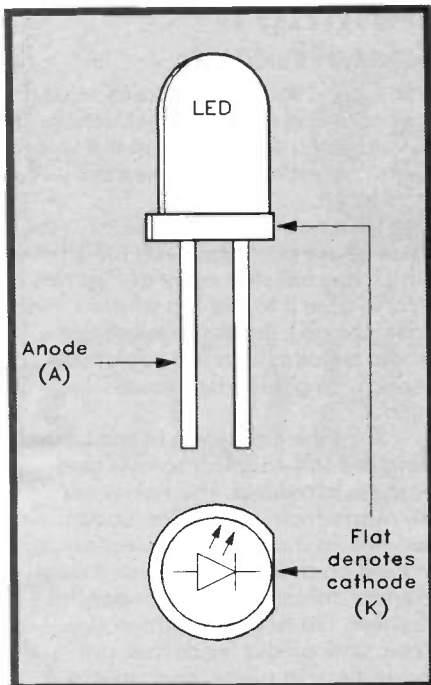

Figure 3. LED symbol and connections (LD1,2).
light up. One side of the LED is flattened (the lead on this side of the LED is known as the cathode (K), while the lead on the other, rounded, side is called the anode (A)). The LED, circuit symbol and connections are shown in Figure 3. Make sure that the LED is fitted so that the 'flattened' side lines up with the drawing of the component printed on the guide-sheet.